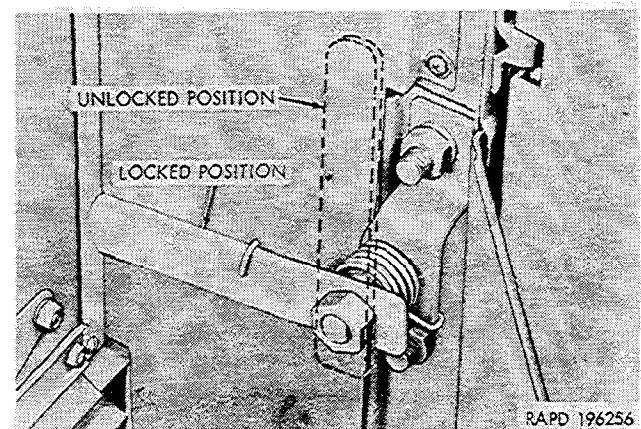

Figure 2-177. Hinged type spare wheel carrier inside lock lever
(1) Remove the nut from the inner end of the lock bolt, disengage the lock bolt spring from the handle and the bracket, and remove the handle and spring (fig. 2-177).
(1) Install the spacer washer on the lock bolt and install the lock bolt from outside with the slot down.
(2) Install a lock bolt nut on the bolt to provide slight end play for the bolt (fig. 2-177).
(3) Position the spring over the lock bolt and engage the short end of the spring in the front of the inner bracket. Install the handle on the bolt
(pointing toward the rear); wind the spring sufficiently to engage the long end of the spring over the handle (fig. 2-177).
(4) Install the other lock bolt nut on the end of the lock bolt, and tighten against the handle (fig. 2-177).